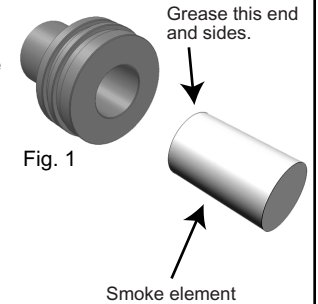

Fig. 1
2. Apply a coat of grease to the forward end and sides of the smoke element (Fig. 1).